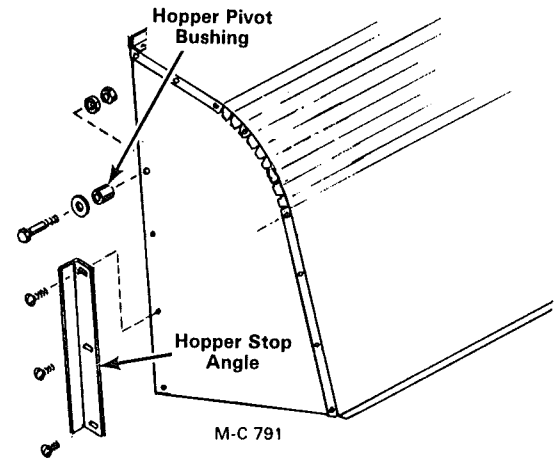

Figure 3
2. Bolt each hopper pivot bushing, Figure 3, to the chute sides with  $\frac{1}{2}$ -13 x  $2\frac{1}{2}$ " hex-head capscrews, flatwasher (next to bolt head), lockwasher and hex-nut.
3. Install the hopper stop angles, Figure 3, to the chute sides and body side plates with  $\frac{5}{16}$ -18 x  $\frac{3}{4}$ " truss head screws, lockwashers and hex-nuts. Leave these screws loose until the hopper is lifted onto the chute assembly.